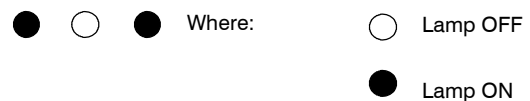

Fig. 15
- 12 Press the reset button C repeatedly (4 times) until the lamps E give the indication as in Fig. 15 (ignition pressure adjustment mode).